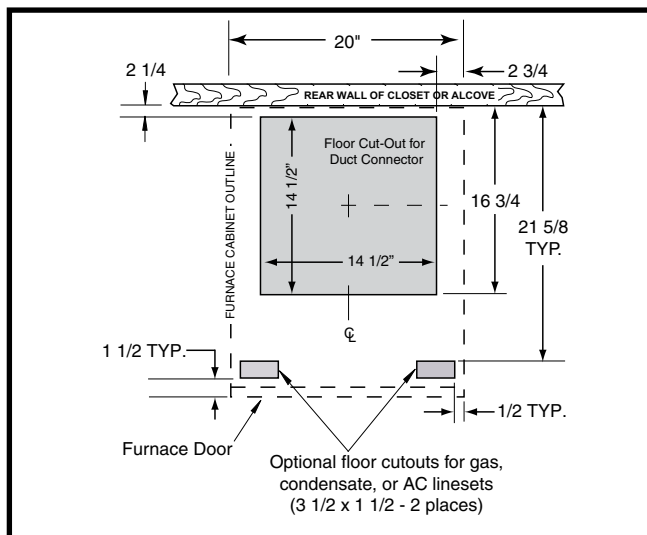
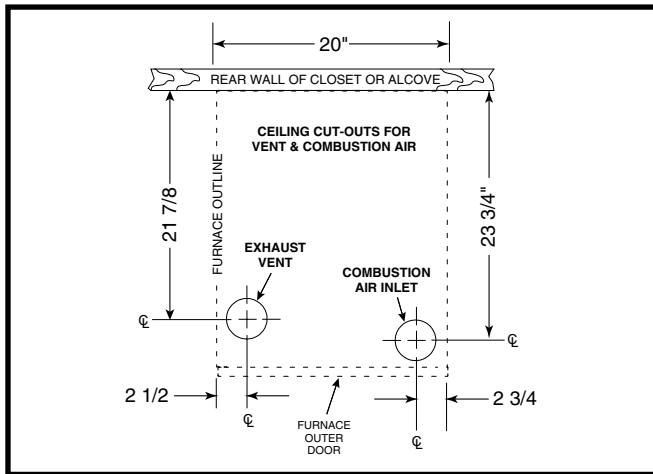

Figure 9. Floor Cutout Dimensions
Figure 10. Ceiling Cut-Out Dimensions
To locate standard ducts, see Figure 9. For round ducts, see Figure 10 \(page 15\).
- Measure from the rear wall or alcove and mark the centerline of the cut-out on the floor. Using the centerline as a starting point, draw the rest of the duct cut-out to the dimensions shown in Figure 9.
- Measure and drill gas hole and cut out for cooling coil (if applicable). See Figure 9 or Figure 10.
Cut-outs in the ceiling and roof must be carefully located to avoid misalignment of the furnace, combustion air piping, and vent piping. See Figure 10.
- Using the centerlines as a starting point, draw the rest of the cut-outs to the dimensions shown in Figure 10.